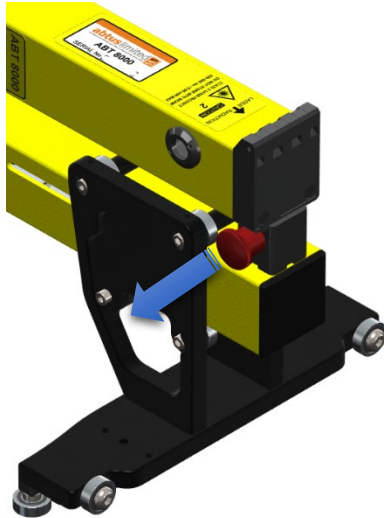
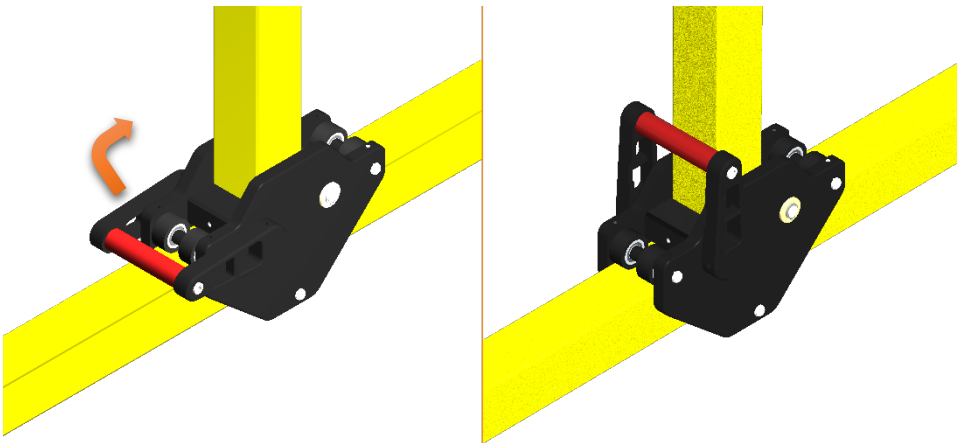

Figure 1 – Pull the lever to release the vertical beam
Figure 2 – Raise the handle against the beam to lock it in place
1. To release the vertical beam, pull the lever towards you (See Figure 1). Lift the vertical beam until it rests against the stop at 90°. Turn the locking handle towards the vertical beam to lock it vertically in place (shown in Figure 2).